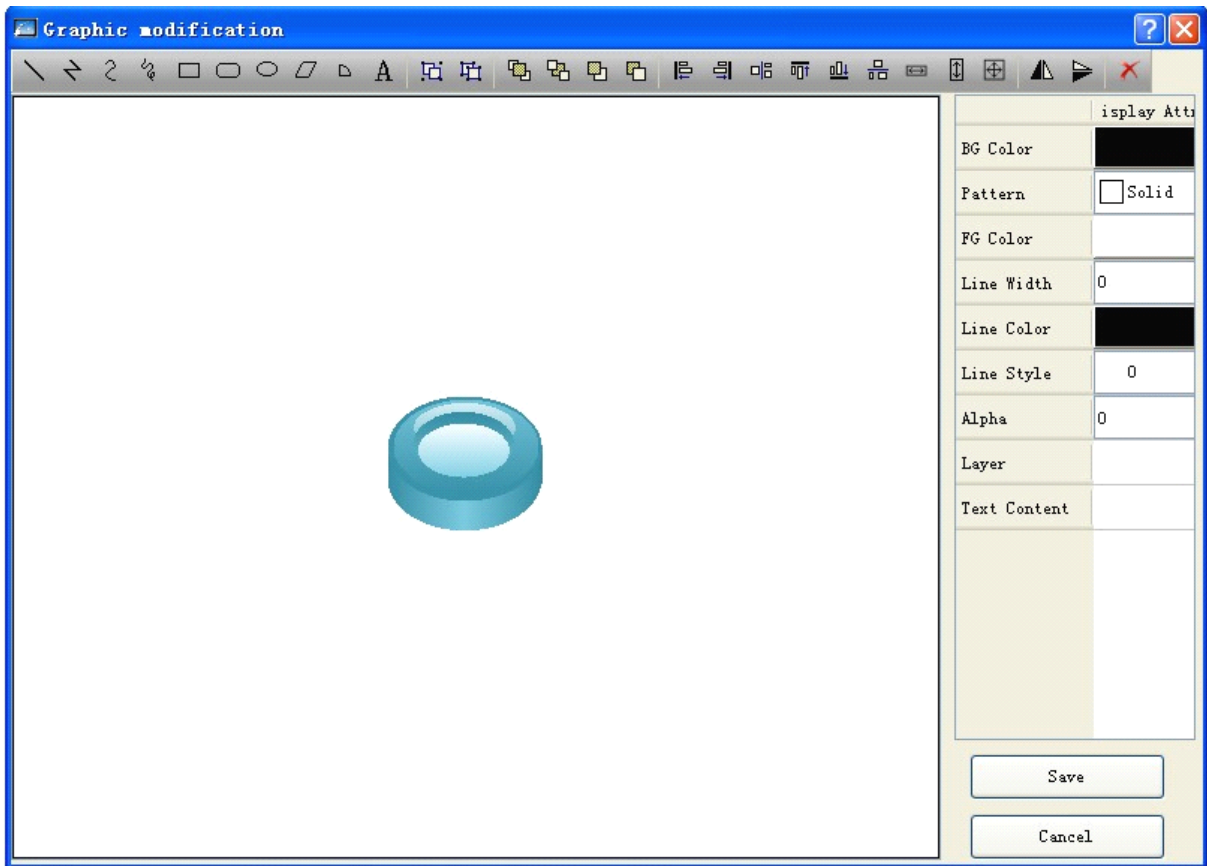
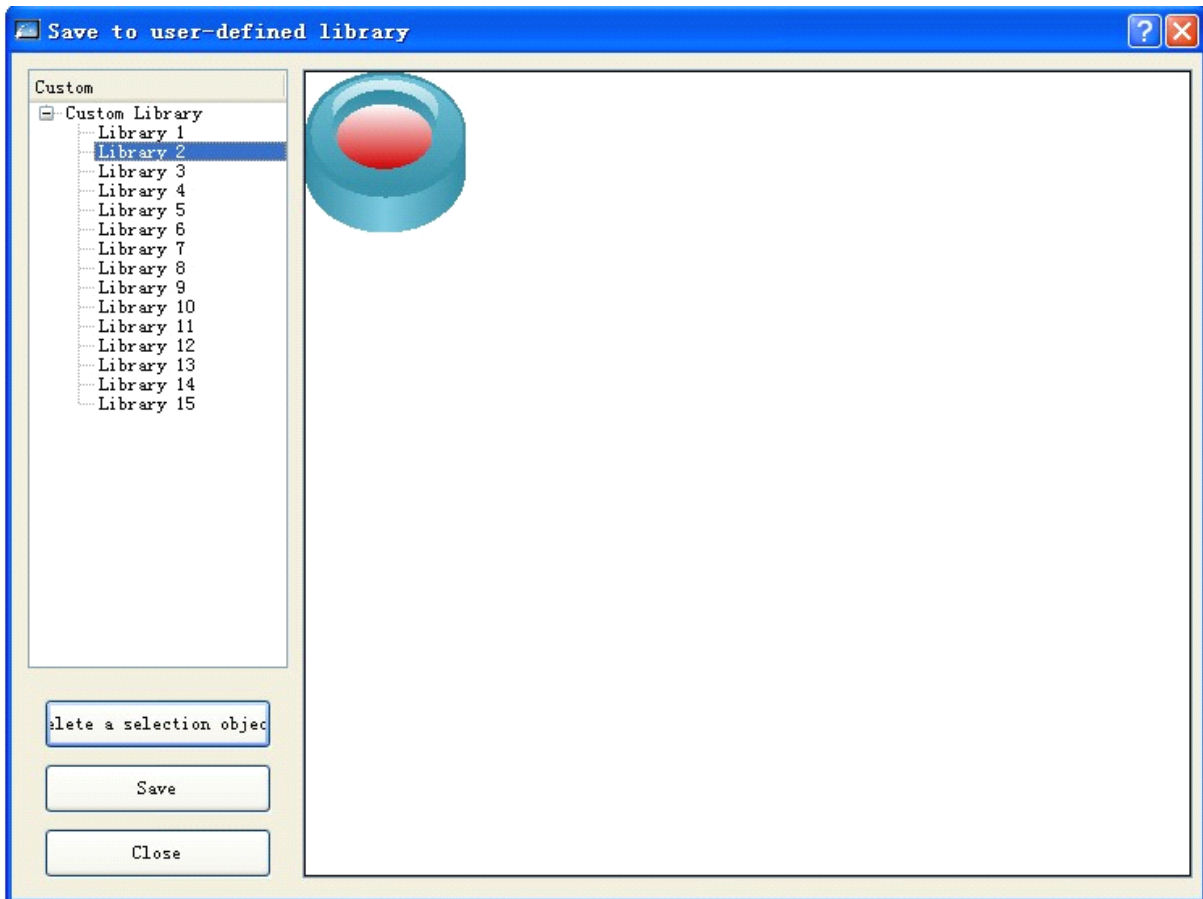

Figure 4-44: Modify a library graph
Figure 4-50: Save the modified graph to user-defined library
- Modify: Choose the graph to be modified, click the Modify button on the lower left, and then a dialog as shown in Figure 4-44 will pop up:
In the dialog as shown in Figure 4-44, choose the graph, and choose the Disassemble function button on the toolbar to disassemble the control from the library. Then, you can choose and modify a graph disassembled from the original combination. Choose the graph to be modified, and then you can set its foreground color, background color and pattern in the right list. After modification, choose all the graphs disassembled from the original combination, click the Assemble function button on the toolbar, and click Save button on the lower right. Then a dialog as shown in Figure 4-50 will pop up: